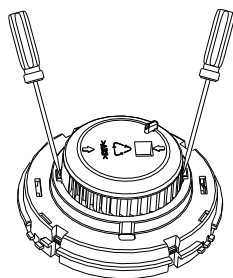

Fig. 6
- a) Open the top cover of detector, and draw out the sensing chamber by slightly lifting its two sides using a straight screwdriver, as shown in Fig. 6.